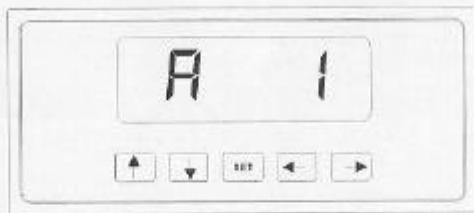
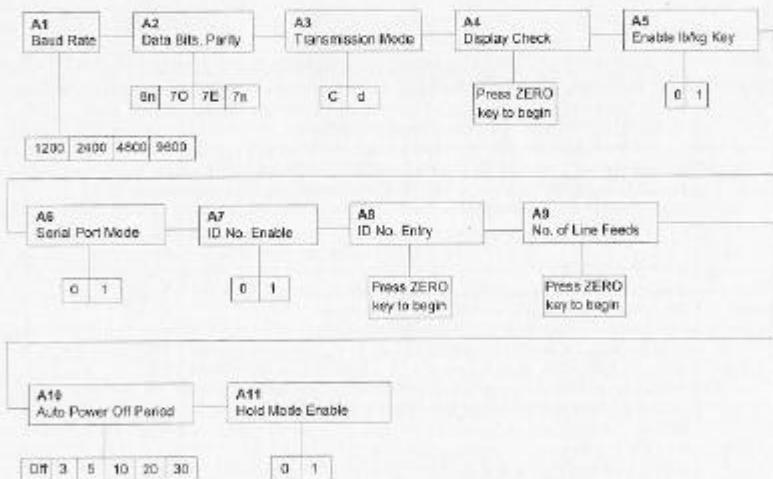

Figure 3-3: User Menu Key Assignments
Figure 3-4: User Menu Chart
2. Use the right or left directional keys shown in Figure 3-3 to move right or left in the Setup ("F") menu until the indicator shows "A-1".
Use the directional keys shown in Figure 3-3 to move around in the User Menu Chart shown in Figure 3-4 on the following page.